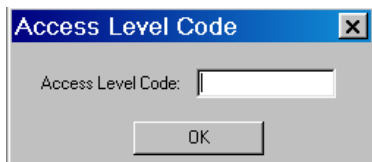

Figure 2-24 Access Level Code Dialog Screen
1. From the IPScom® Main Screen menu select **Tools/Security/Change User Access Code**. IPScom will display the Access Level Code dialog screen (Figure 2-24).